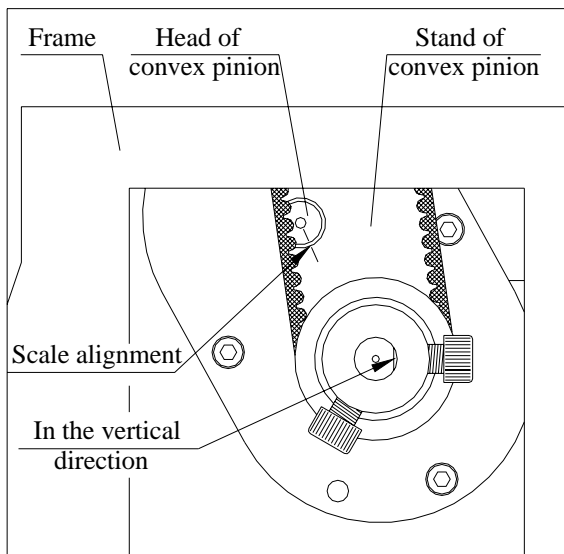

Fig.11
(1) Dismount the belt cover and turn the hand wheel to make the needle bar at the highest position.
(2) Attention should be paid to the stand of convex pinion in the frame. The scales on both the convex pinion and the stand of convex pinion must be in alignment. (At the same time, the flat end of the synchronous belt wheel should be in the vertical position.)(See Fig.11)